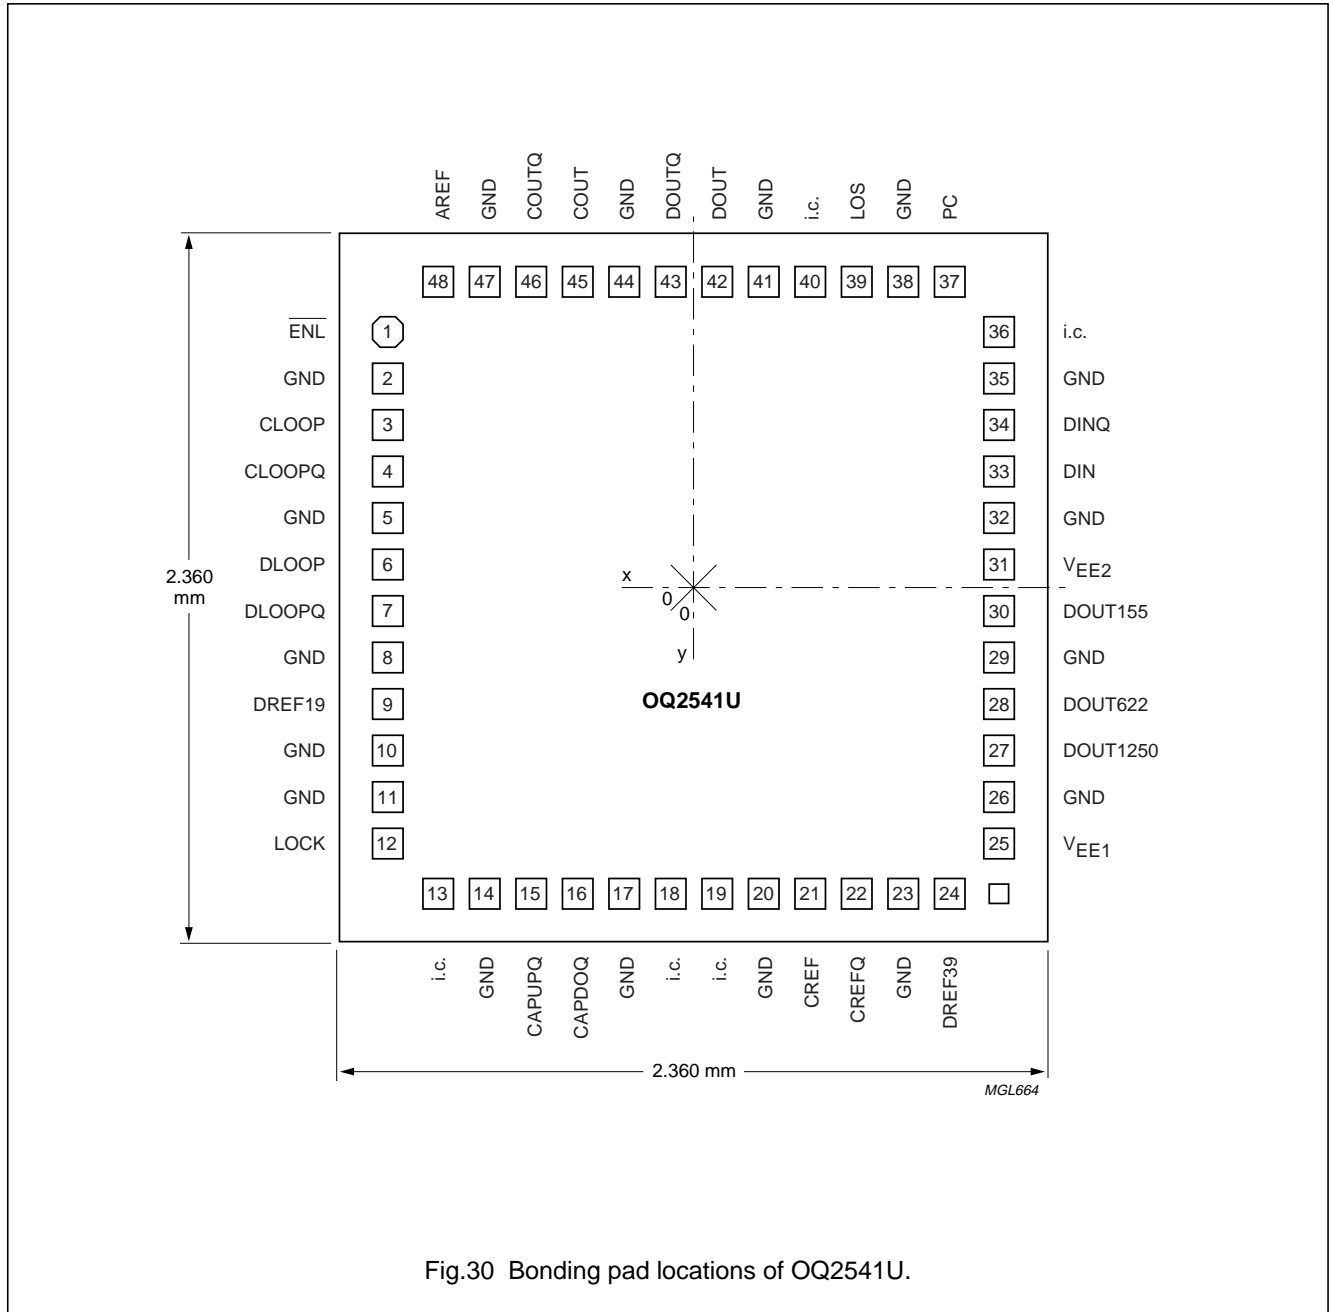

Fig.30 Bonding pad locations of OQ2541U.
1. All x and y coordinates represent the position of the centre of the pad in  $\mu\text{m}$  with respect to the centre of the die (see Fig.30).